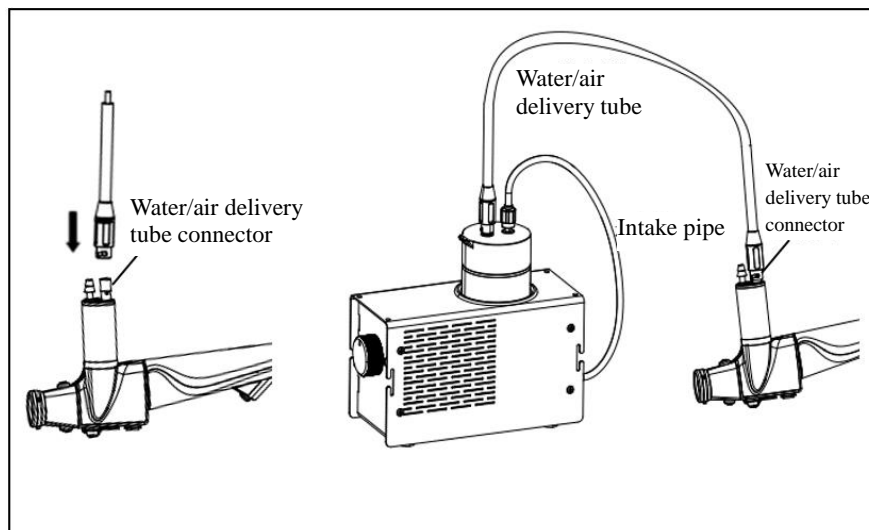

Figure 3.26
2. Connect the water bottle connector to the air/water delivery connector, as shown in Figure 3.26.